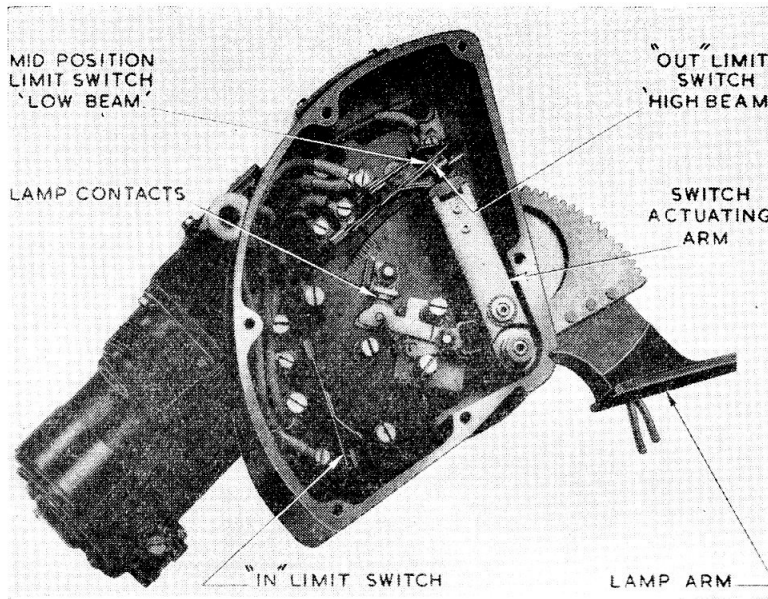

Fig. 2. View of limit switches (unit extended)
7. The operation of the limit switches can be followed from the views of the mechanism in *fig. 2* and *3*. With the lamp in the retracted "off" position, as in the circuit diagram in *fig. 4*, the "in" limit switch is open (*fig. 3*). When the motor "out" field is energized by operation of the external switch, the lamp will be extended, and the filament lamp contacts closed by rotation of the actuating arm. If "low" beam has been selected, the lamp will be extended until the arm changes over the mid-position limit switch after 78 deg. of travel; if "high" beam has been
selected, it will continue until the arm finally breaks the "out" limit switch after 85 deg. of travel to de-energize the motor field (fig. 2). When the external switch is then operated to select the "low" beam or retracted "off" position, the "out" field is energized and the mechanism operates in the reverse sequence until the lamp is fully retracted and the actuating arm finally breaks the "in" limit switch.